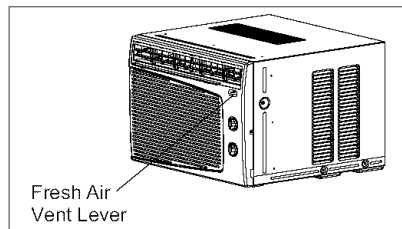

Fig.10
**Fresh Air Ventilation** is usually kept in the closed position. Use only when clearing smoke and/or odors from the room. Pull to open. (See Fig.10).